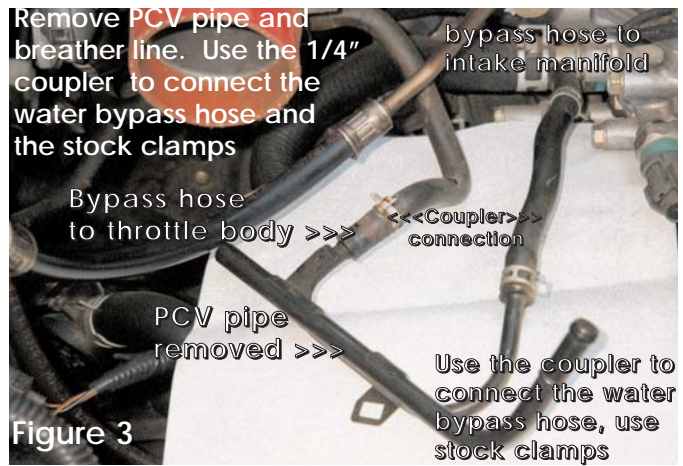

Figure 3
Remove the PCV pipe and the water bypass hose as seen in diagram (C). Take the 1/4" coupler and close the loop by joining the two water bypass hose as seen in figure 3 and in diagram (C). Reuse the stock clamps on the hose to prevent slipping.